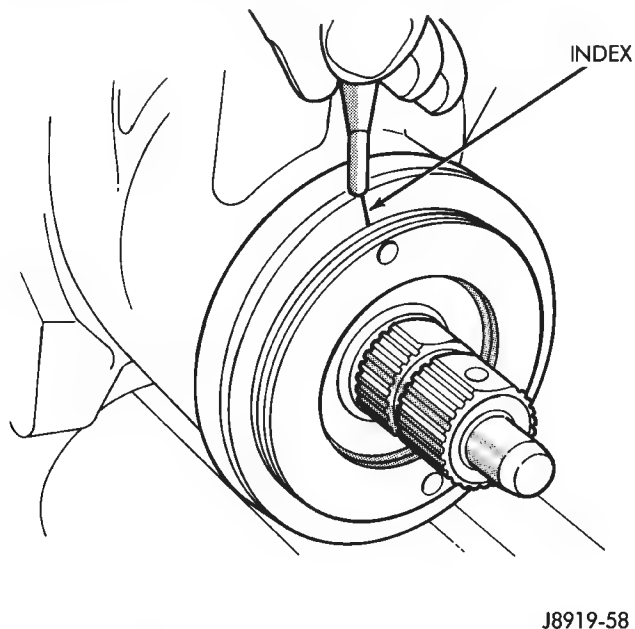

Fig. 9 Alignment Marking On Housing
- (2) Turn the adjuster in with Spanner Wrench C-4381. Tighten the plug and thrust bearing in the housing until firmly bottomed in housing.
- (3) Place an index mark on the housing even with one of the holes in adjuster plug (Fig. 9).